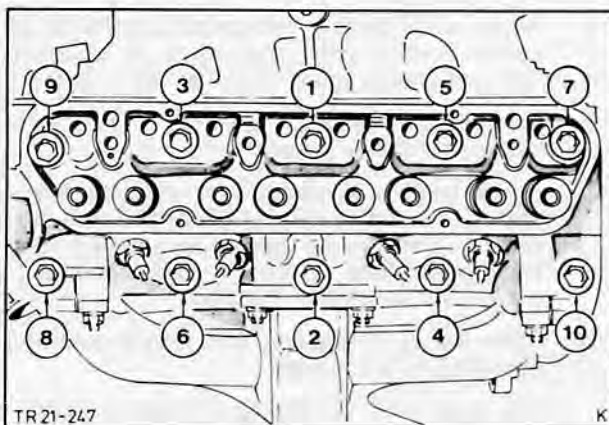

Fig. 67. Tightening sequence for cylinder head bolts
62. Fit cylinder head and tighten bolts finger tight. Torque cylinder head bolts as specified in three stages proceeding in sequence shown in Fig. 67.